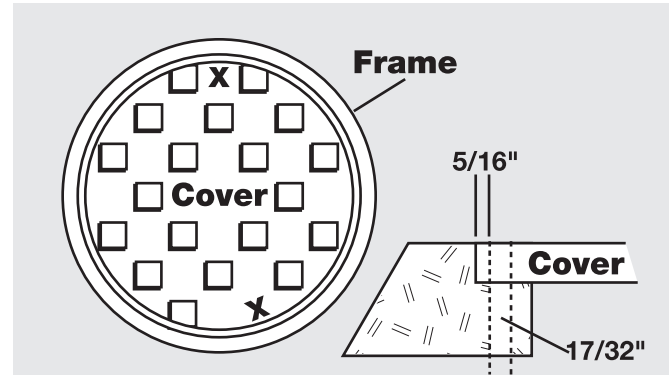

Figure 1
- Drill location approximately 5/16" from edge of cover. (See Figure 1)
**STEP 6:** Repeat Steps 2 thru 5 for a second bolt to secure cover. Second hole should be 170° from first hole. (See Figure 1, marked "X")